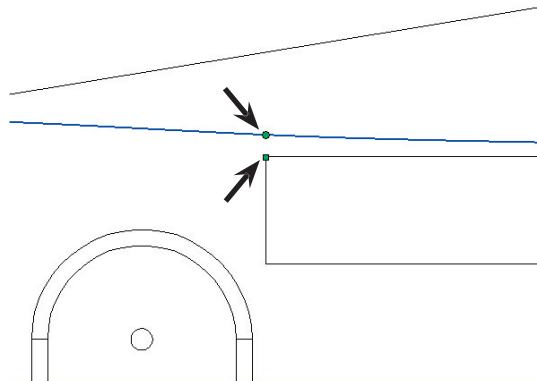

Fig. 23
Step 8. **Shift click** the **3rd spline point and cartridge cutout top front corner** to select both (Hold down Shift key and click both spline point and corner point), **Fig. 23**.